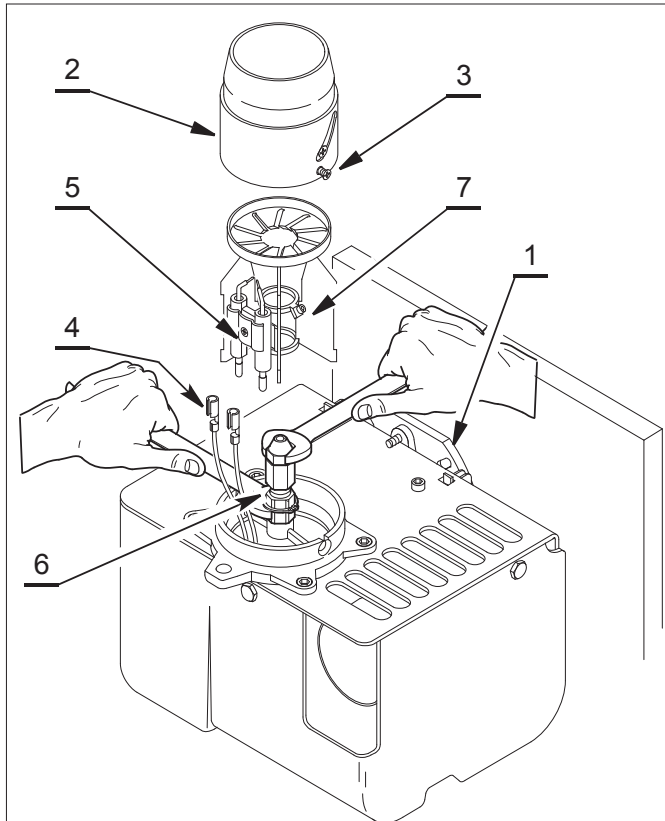
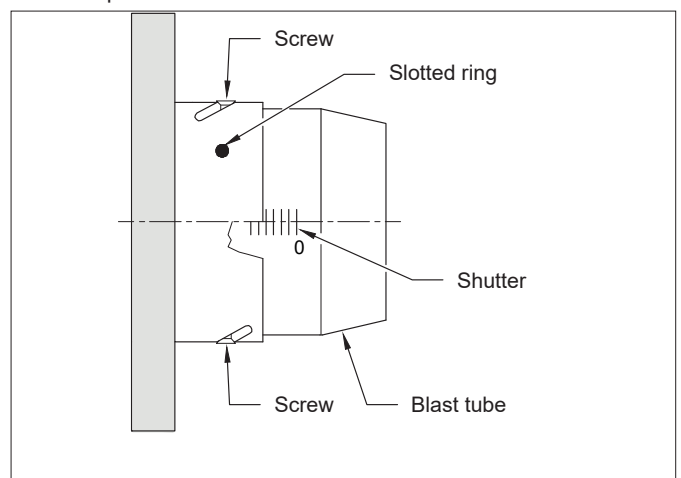

Figure 10-5: Riello RDB 3.2 burner head, diffuser and nozzle holder
Figure 10-7: Riello RDB 3.2 Combustion Head Setting
4. Remove the burner head. Refer to Figure 10-5. Loosen both fixing screws (3) and remove head from burner (2).
6. If the nozzle needs to be replaced - Remove the diffuser/electrode assembly. Refer to Figure 10-5.
- Loosen the diffuser clamp screw (7) and remove the diffuser/electrode assembly from the nozzle holder (6).
- Disconnect both ignition leads (4) from the electrodes.
10. Refer to figure 10-5. Slide diffuser (5) along the nozzle holder (6) until hard against the stop and tighten diffuser clamp screw (7).
12. Re-fit the burner head. Refer to Figure 10-5.
- Tighten the two screws (3) to secure the head (2) in position on the burner.
- In this case the head is set to '4' (i.e. on the 4th line). Refer to Figure 10-7.
- Loosen the two screws in the curved slots in outer ring of the head (NOT the two head fixing screws). Refer to Figure 10-7.